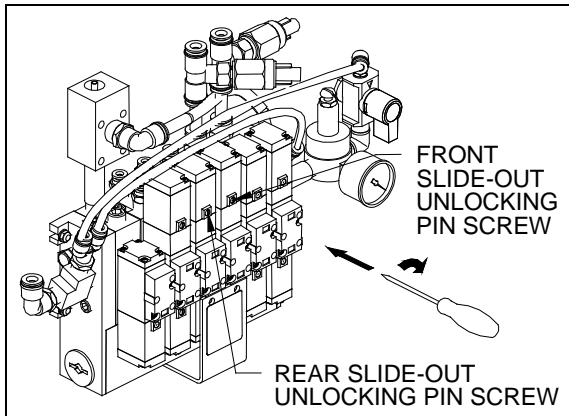

FIGURE 22 : UNLOCKING PIN VALVE LOCATION
- A) Identify the proper pneumatic valve controlling the unlocking pins of the problem slide-out (figure 22).
- B) Ensure the ignition key is in the "OFF" position. When the proper valve has been identified (right side for front slide-out and left side for rear slide-out), turn clockwise the "pin valve manual override screw" to actuate the unlocking pins (figure 22). Keep the override screw in this position. During the process, you should hear a hissing sound, as the air flows to the pin cylinders.